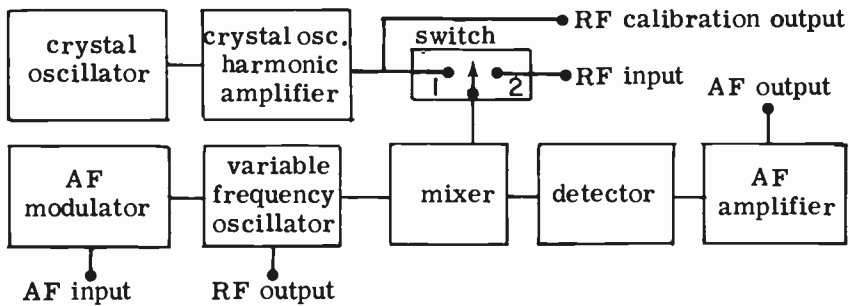

FIG. 18-7. A HETERODYNE-FREQUENCY METER.
**A COMPLETE HETERODYNE FREQUENCY METER.** Fig. 18-7 illustrates a block diagram of an elaborate Heterodyne Frequency Meter. It